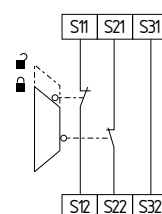

Fig. 13
**Dual-channel guard door monitoring circuit with interlocking device to EN ISO 14119 (see Fig. 13)**